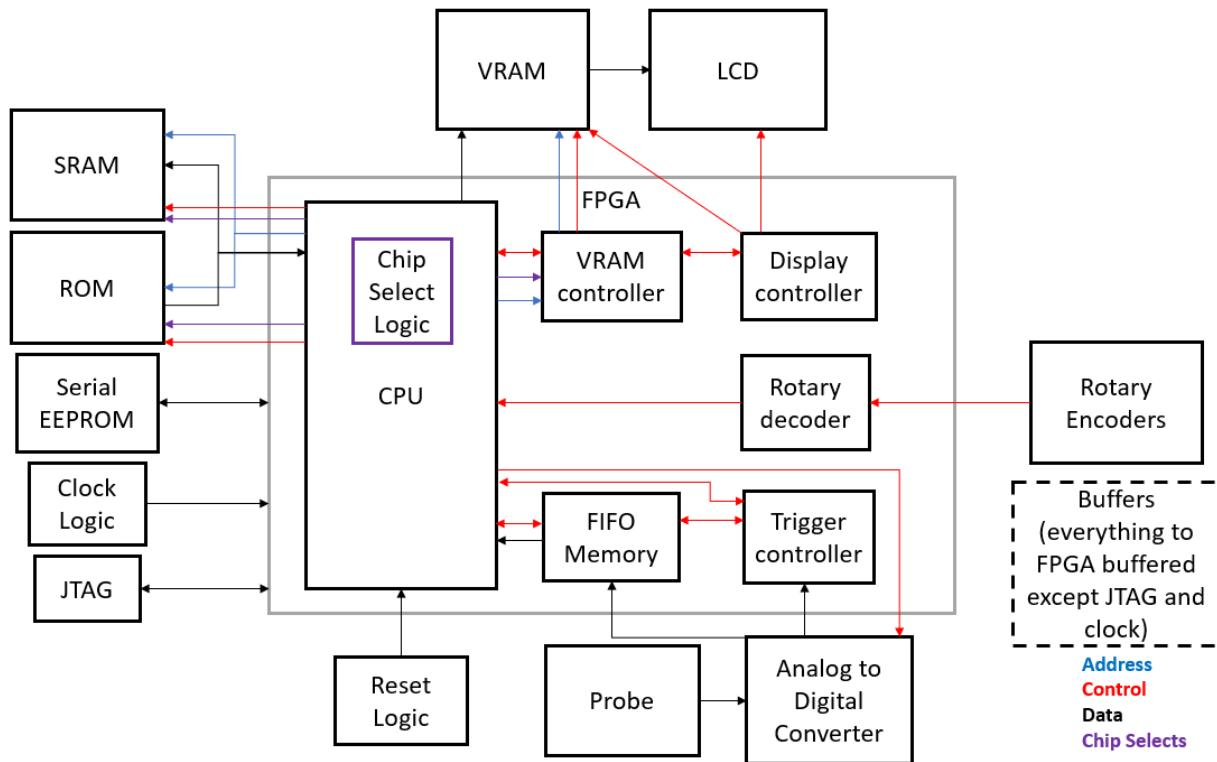

Figure 1: Block diagram overview of FPGA and peripheral chips.
**Logic:** A CPU and several controllers were programmed into the FPGA, as seen in Figure 1. These will be discussed in greater detail in their respective subsections. As seen in the main block diagram, the peripheral memory, user interface elements, and other elements all interact with the FPGA and its various controllers. The input signal and settings are sent to the CPU and the appropriate controllers, and the output data is sent from the CPU to be displayed on the LCD.